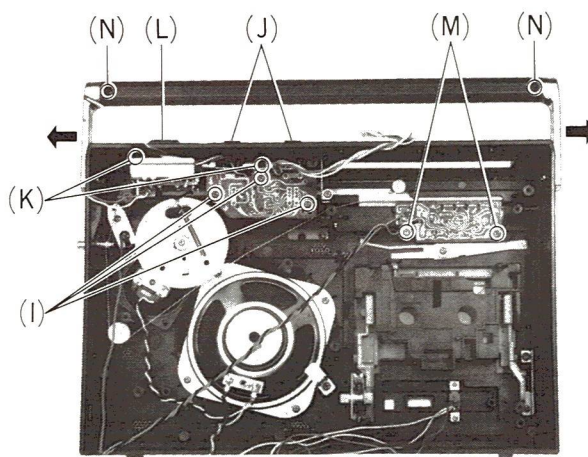

Fig. 4
※2. To remove the handle, first remove two screws (N) and open the handle arm as shown in the direction of the arrow in Fig. 4.